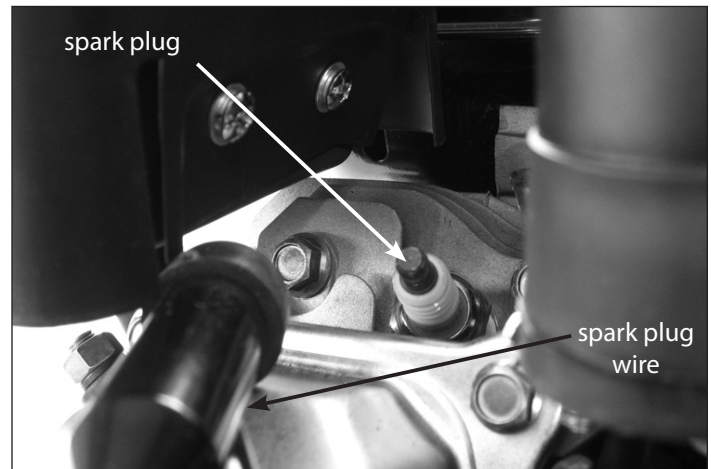

Figure 8: Spark plug location
1. Detach spark plug wire and move away from spark plug. If the engine uses a battery, disconnect at negative terminal. **SEE FIGURE 8.**